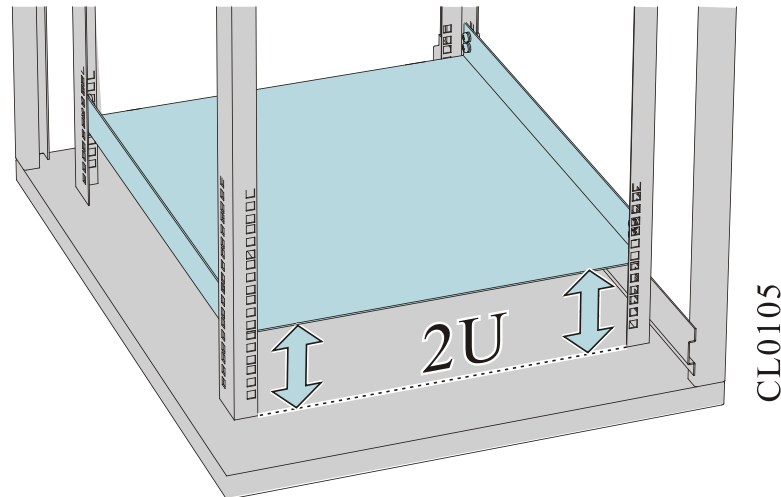

Figure 3-1 The minimum slide height
- ❖ Ensure that the distance between the slid to the bottom cabinet is 2U and three holes on the square hole bar is 1U, as shown in Figure 3-1.